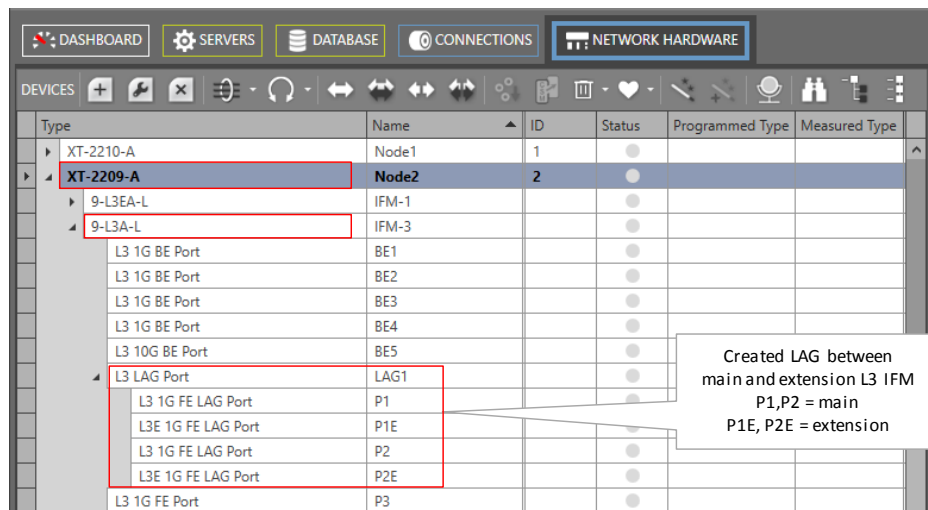

Figure 319 Created LAG
1. Select the LAG that must be modified via selecting its '<IFM> LAG Port' row in Figure 319.
1. Select the LAG that must be deleted via selecting its '<IFM> LAG Port' row in Figure 319.